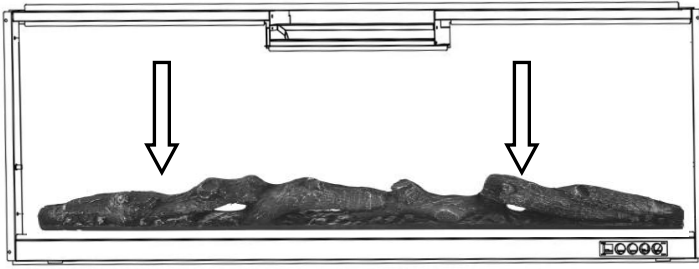

Fig 6-1. (Log-set)
- B.** Remove the log-set (**G**) from the package, put it to the fireplace designed place. **Fig 6-1.**